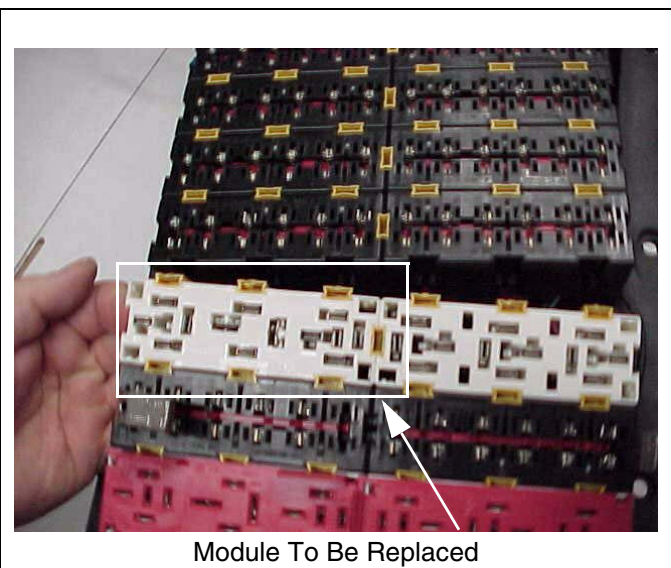

Figure 15-19
- b. Release the 4 remaining lock wedge tabs on the module being replaced. See Figure 15-19 and Figure 15-20 on page 19.